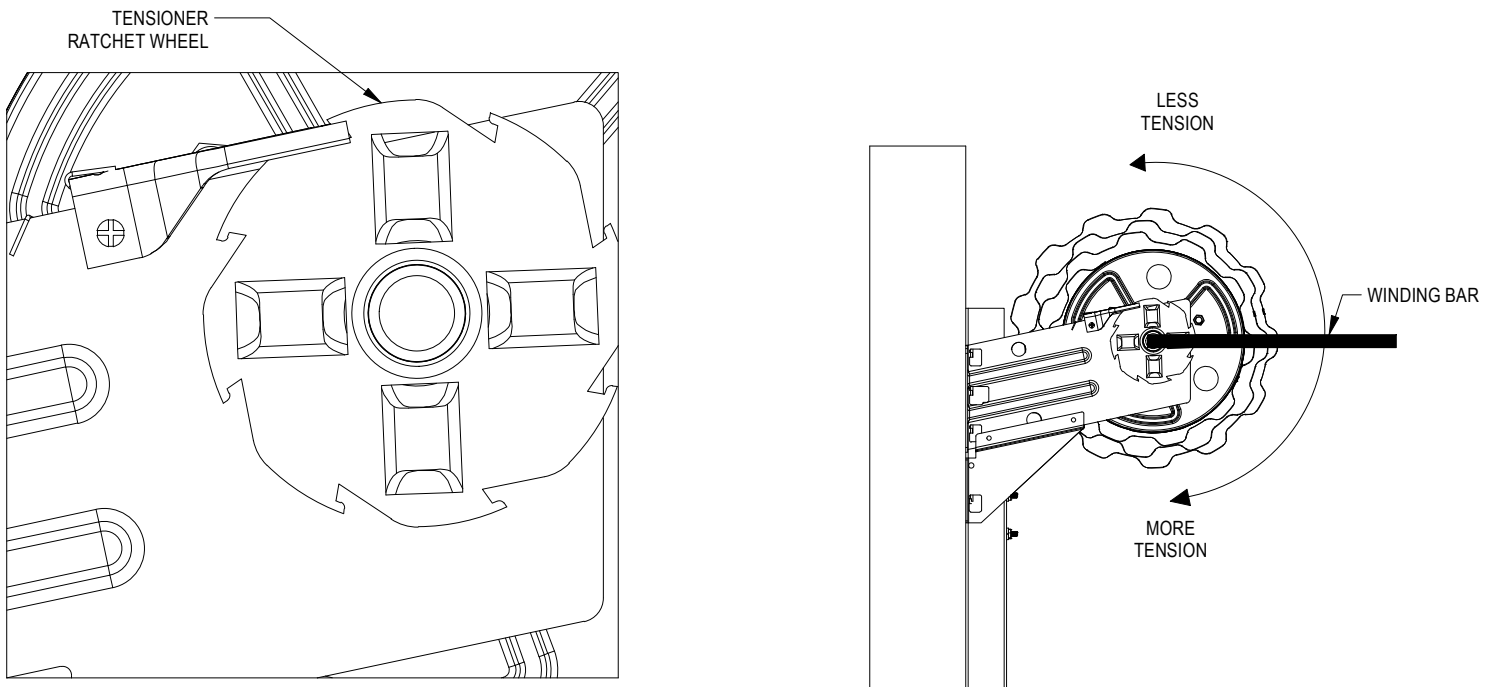

FIGURE 18:
- If door is easy to close but difficult to open, increase spring tension. See Figure 18, on Page 12.
- If door is difficult to close but easy to open, decrease spring tension. See Figure 18, on Page 12.
MANUAL ADJUSTMENTS OF SPRING TENSION MAY BE REQUIRED. ADJUSTMENTS ARE TO BE MADE USING A $\frac{3}{8}$ " DIAMETER WINDING BAR. WHEN MAKING ADJUSTMENTS, ENSURE TENSIONER PAWL IS FULLY ENGAGED WITH TENSIONER RATCHET WHEEL TOOTH BEFORE REMOVING WINDING BAR FROM IT. SEE FIGURE 18 FOR VISUAL REFERENCE.